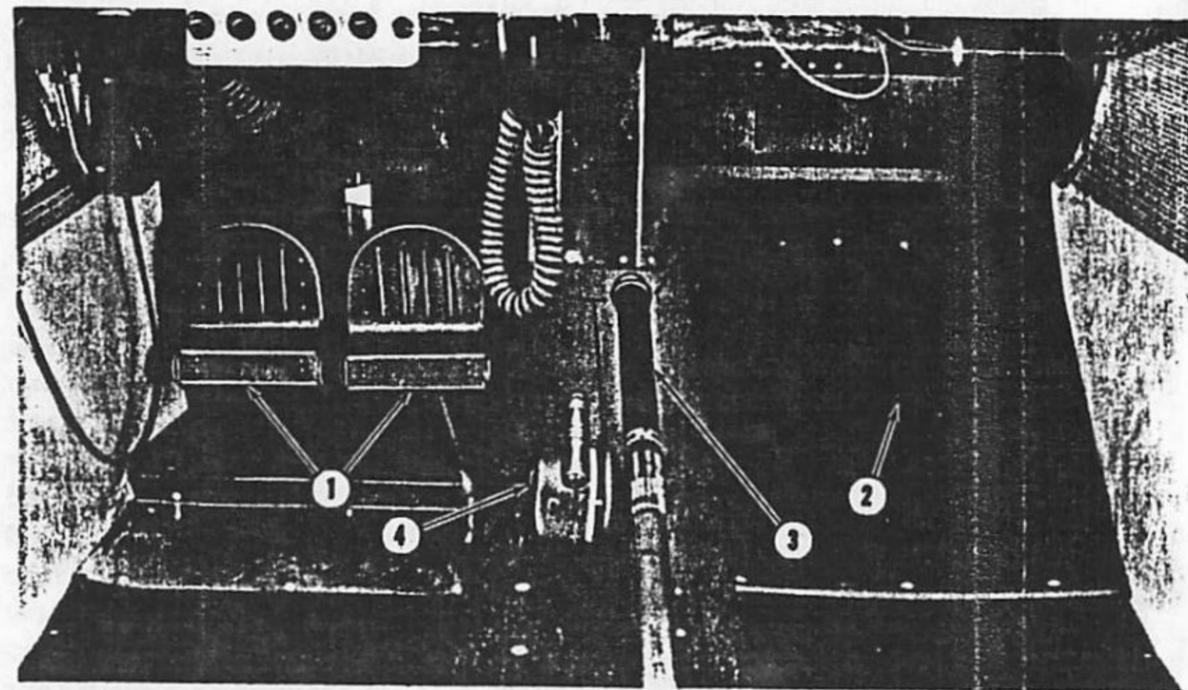

Figure 4. Lower Forward Section Of Cabin
**Rudder Pedals.** A set of rudder pedals (1, figure 4) are provided to operate the rudder. These rudder pedals are located just aft of the firewall directly in front of the pilot's seat. Dual rudder pedals are available as optional equipment.
trolled by rotating the tab control wheel (4, figure 4) which is located just ahead of and between the two front seats. A tab position indicator is incorporated in the tab wheel mechanism and indicates the nose attitude of the airplane. Forward movement of the wheel trims nose down and vice versa. This allows the airplane to be trimmed to fly level for a wide selection of load and speed conditions. Take-off is made with the tab position indicator set in "TAKE-OFF" position.
**Wing Flap Handle.** The wing flaps are controlled by a wing flap handle (3, figure 4) mounted between the two front seats. The handle is operated by depressing the thumb button and moving the handle to the desired